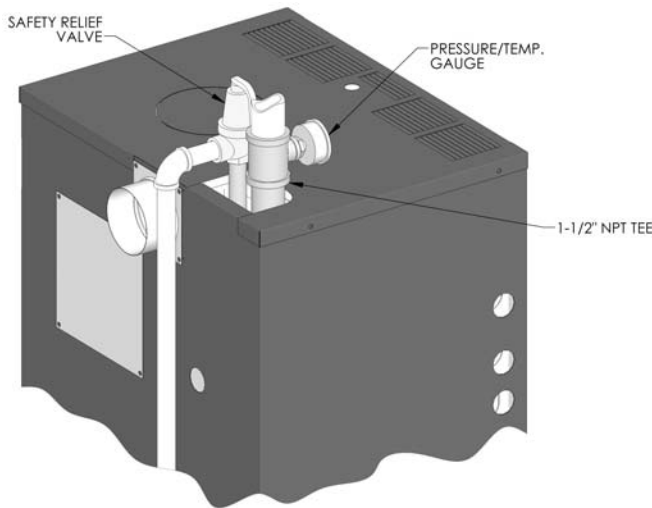

Figure 3.2: Pressure/Temperature Gauge & Relief Valve Piping
1. *Pressure/Temperature Gauge:* A combination pressure/temperature gauge is provided with each WBV/WV™ boiler to be mounted in the supply (outlet) piping as shown in figure 3.2. Most local codes require this gauge.
7. *Pressure Relief Valve:* The boiler pressure relief valve is shipped separately for field installation. On the WBV/WV™ boiler, this can be piped into the connection provided next to the boiler supply (outlet) connection or, alternatively, on the connection at the rear of the boiler below the supply. The value is to be installed as shown in Figure 3.2.